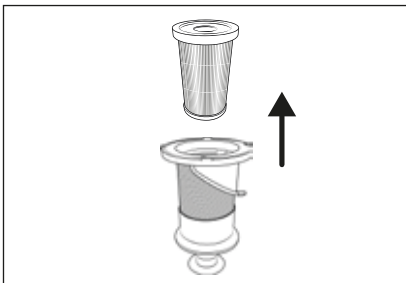

Fig. 19
- 4) Remove the HEPA filter **4** from the stainless steel filter **5** by reaching into the opening of the HEPA filter **4** and pulling it out of the stainless steel filter **5** (see Fig. 19).